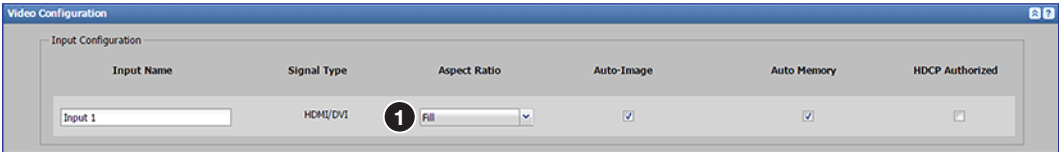

Figure 30. Video Configuration Aspect Ratio
The **Aspect Ratio** adjustment (see figure 30, ❶) allows the user to select between input rates to fill the entire window for that channel (**FILL**), scale up to fit the channel window and keep the original aspect ratio (**FIT**), or to allow each input rate to display in its native aspect ratio with respect to the channel window (**FOLLOW**).